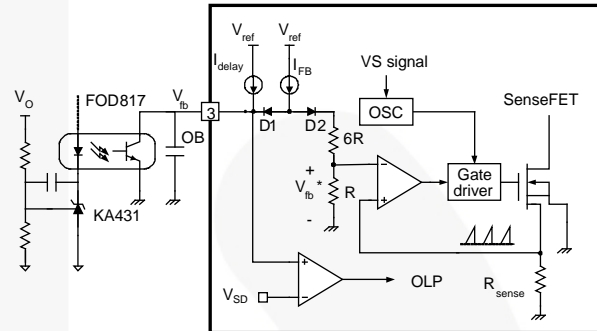

Figure 14. Valley Switching Pulse-Width Modulation (VS-PWM) Circuit
**2. Feedback Control:** This device employs current-mode control, as shown in Figure 14. An opto-coupler (such as the FOD817) and shunt regulator (such as the KA431) are typically used to implement the feedback network. Comparing the feedback voltage with the voltage across the  $R_{sense}$  resistor makes it possible to control the switching duty cycle. When the reference pin voltage of the shunt regulator exceeds the internal reference voltage of 2.5 V, the opto-coupler LED current increases, pulling down the feedback voltage and reducing the drain current. This typically occurs when the input voltage is increased or the output load is decreased.
**2.1 Pulse-by-Pulse Current Limit:** Because current-mode control is employed, the peak current through the SenseFET is limited by the inverting input of PWM comparator ( $V_{FB}^*$ ), as shown in Figure 14. Assuming that the 225  $\mu$ A current source flows only through the internal resistor ( $6R + R = 12.6k\Omega$ ), the cathode voltage of diode D2 is about 2.8 V. Since D1 is blocked when the feedback voltage ( $V_{FB}$ ) exceeds 2.8 V, the maximum voltage of the cathode of D2 is clamped at this voltage, clamping  $V_{FB}^*$ . Therefore, the peak value of the current through the SenseFET is limited.